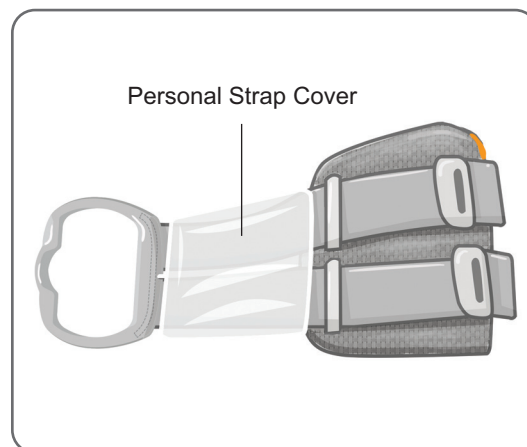

Figure 6-3: Personal Strap Cover on the Lower Leg Cuff
1. Slide the Personal Strap Cover over the Lower Leg Cuff Strap. See Figure 6-3.